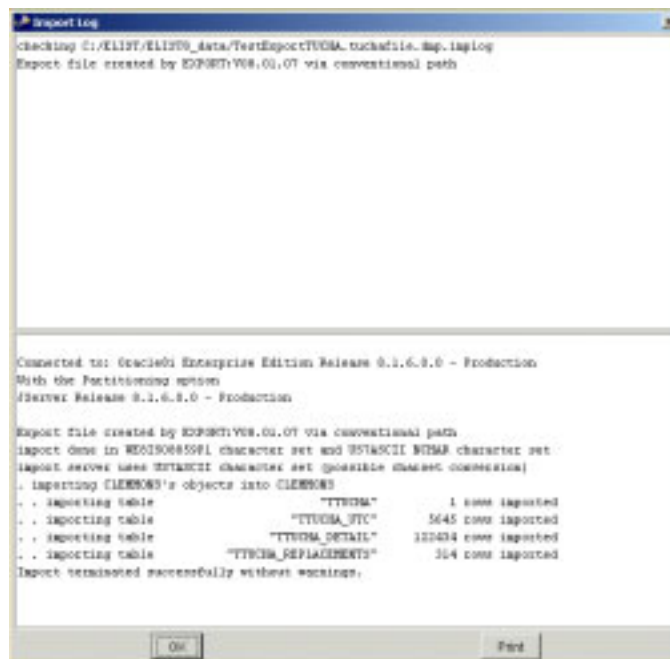

Figure 5.156 Import Log Window
- To import the ELIST-format TUCHA file, click OK. After a moment, the file is imported, and the Import Log window opens (Figure 5.156).